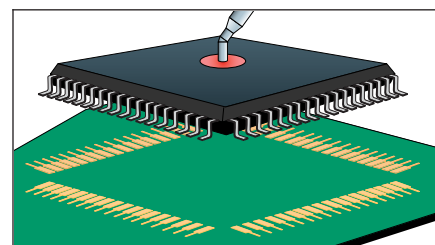

Figure 1 Position Component
3. Position the component ensuring proper lead-to-land alignment. Hold the component in place using the vacuum pick-up tool or tweezers. (See Figure 1.)